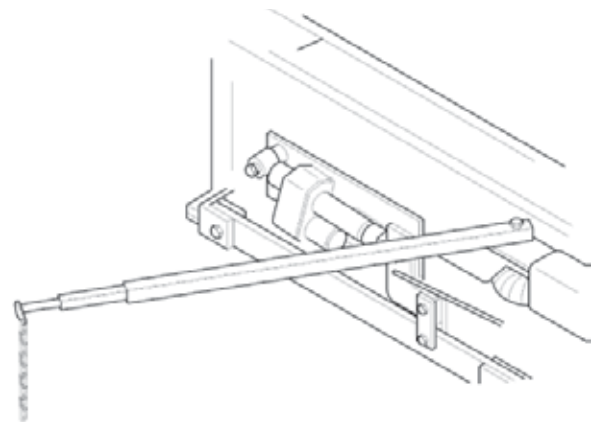

Figure 4-37. Guide Bar Gauges
- Make sure to use a reference guideline. This can be a curb, gutter, adjacent mat or a string line. It is important that the first pass be straight. It will be the guideline for the following passes. Use the guide bar gauges as shown in **Figure 4-37**.